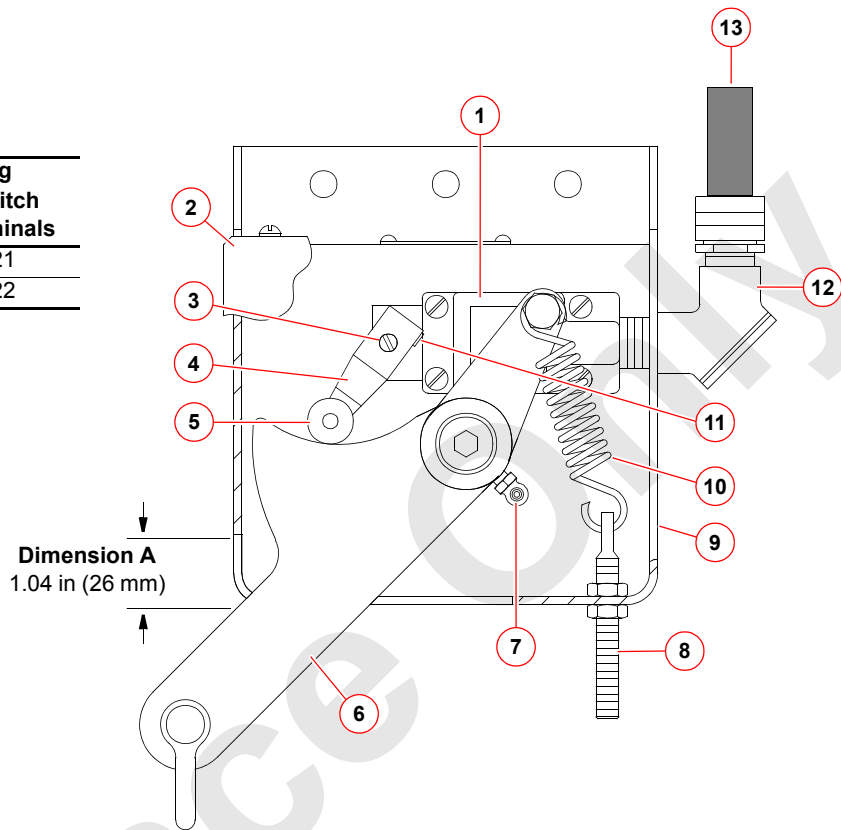

FIGURE 6-9
- a. Inspect each limit switch lever and actuating lever (Figure 6-9) for freedom of movement. Apply one-half shot of grease to the fitting in the actuating lever. Wipe away any excess grease.
See Figure 6-9